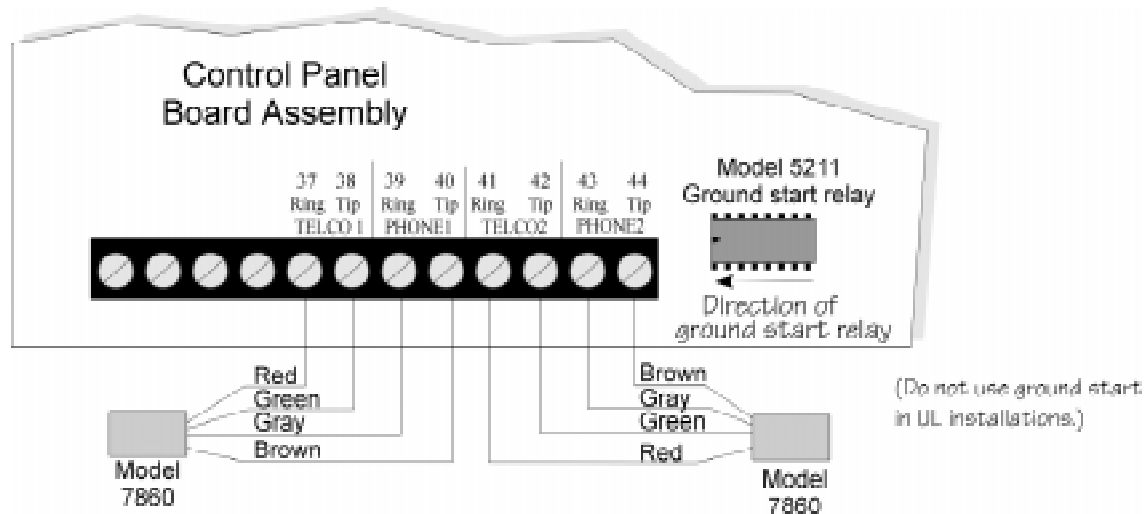

Figure 4-29 Connection of Telephone Lines
Connect the telephone lines as shown in Figure 4-29. The Model 7860 phone cord is available from Silent Knight for this purpose.
1. Install the relay as shown in Figure 4-29.